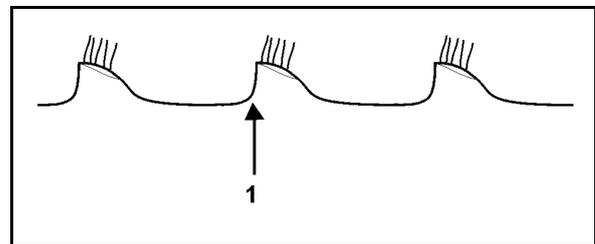

Fig. 24
- Fig. 24: The cutting edge of the 2nd disc row is not visible and follows the 1st disc row: Adjust 1st disc row to left.